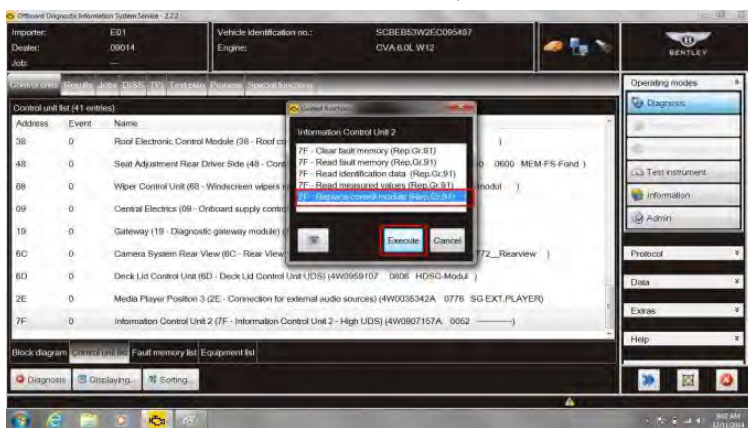

Figure 12
20. Within Control units, Information Control Unit 2, Select **Replace control module** and then **Execute** (see Figure 12)